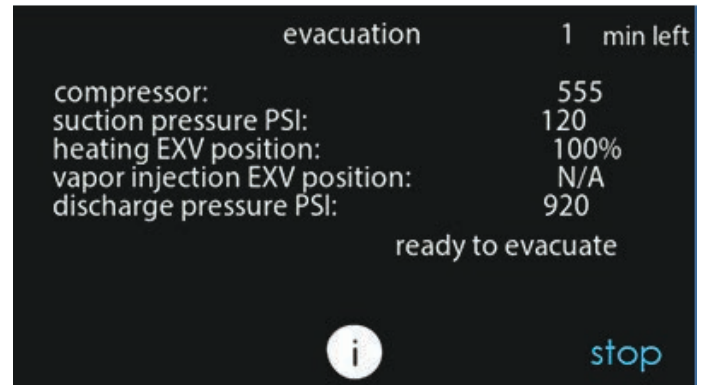

Fig. 28 – Evacuation Status Screen
5. Begin evacuation or refrigerant recovery as required for the procedure after Evolution™ Connex™ System Control indicates the EXV is open. Power may be removed from heat pump after the Evolution™ Connex™ System Control indicates “READY TO EVACUATE.” See Fig. 28.